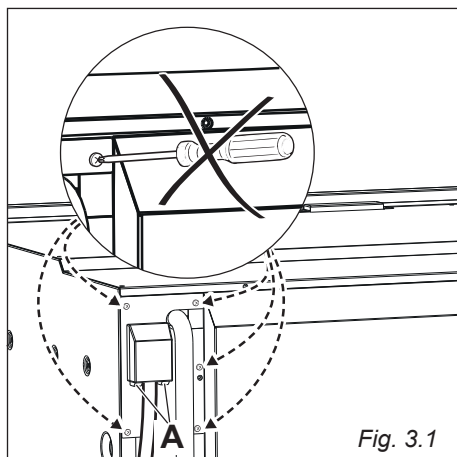

Fig. 3.1
- Unhook the terminal board cover by inserting a screwdriver into the two hooks “A” (fig. 3.1).